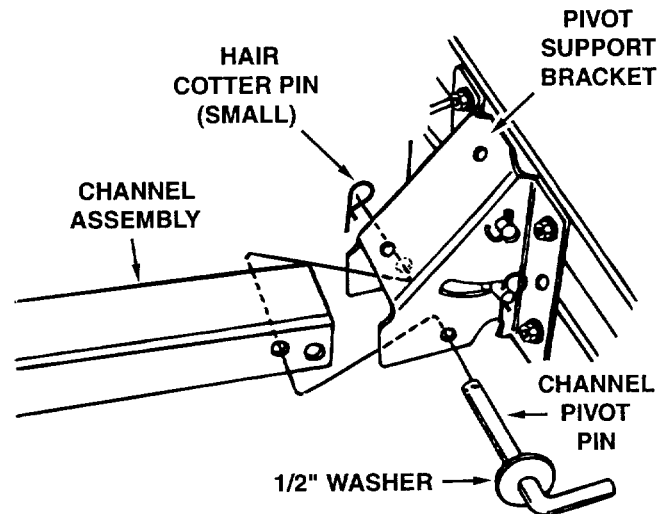

Figure 5
8. Attach the channel assembly to the tractor by placing the end of the channel inside the pivot support bracket. Assemble the 1/2" flat washer onto the channel pivot pin and insert the pin through the holes in the pivot support bracket and the channel. Secure with a small hair cotter pin. See figure 5.